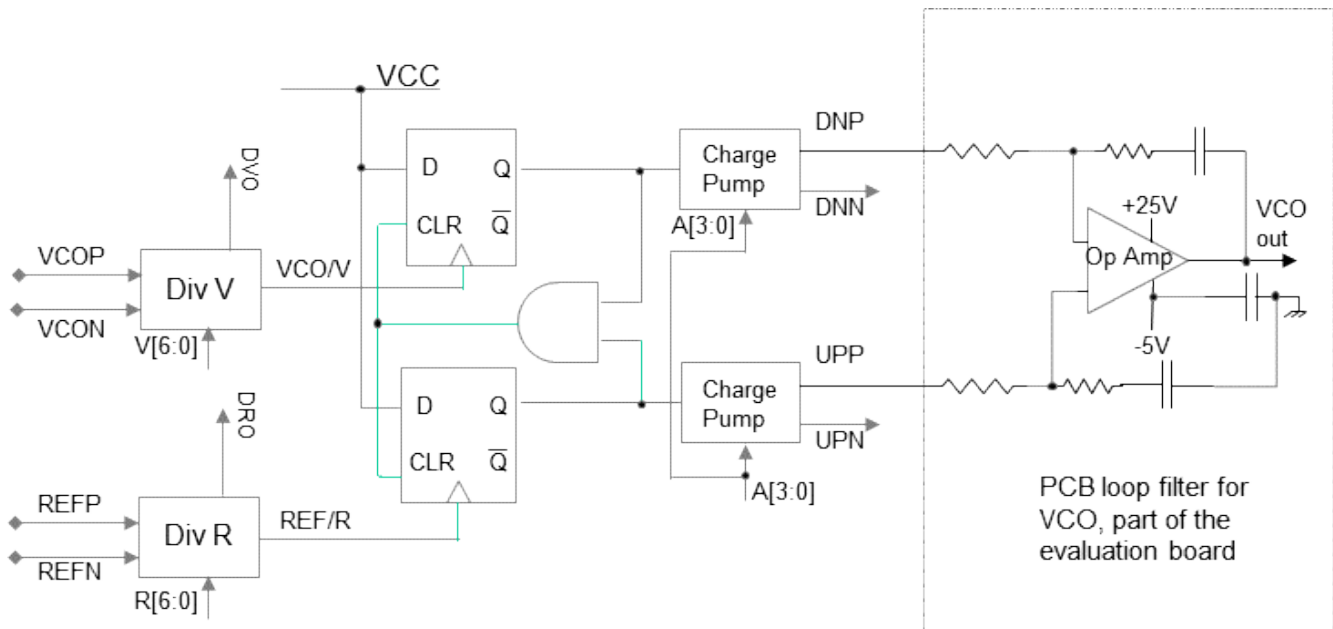

Figure 4. Block diagram for PFD1KE evaluation PC board including loop filter and VCO op-amp
2. The evaluation board has an OP AMP to drive a Varactor VCO oscillator with a 0V to 20V tuning voltage (see Figure 4). Make sure that the proper NO-LOAD resistors are installed to enable the OP AMP circuitry (refer to the schematic in Figure 5) and make sure that a -5V_{VEE} and +25V_{VCC} supply are connected. The -5V and +25V supplies are not needed if the OP AMP integrator circuitry is not needed.
3. Figure 4 shows a block diagram of the PFD1K phase frequency detector and the VCO error voltage integrator circuit (if loaded) that is part of the evaluation board.